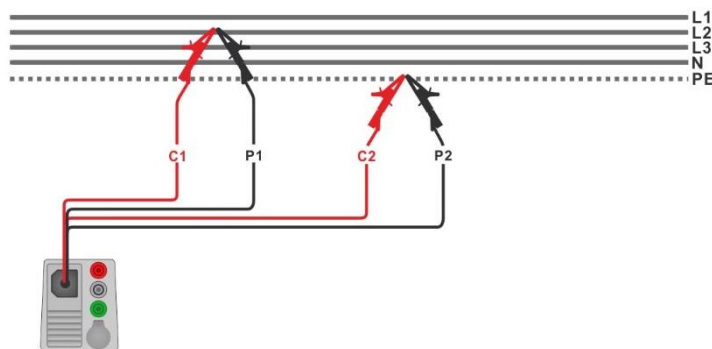

Figure 7.45: Connection of 4-wire test lead
- › Connect 4-wire test lead to the object under test, C1, P1 terminals to phase and C2, P2 terminals to PE; see **Figure 7.45**.